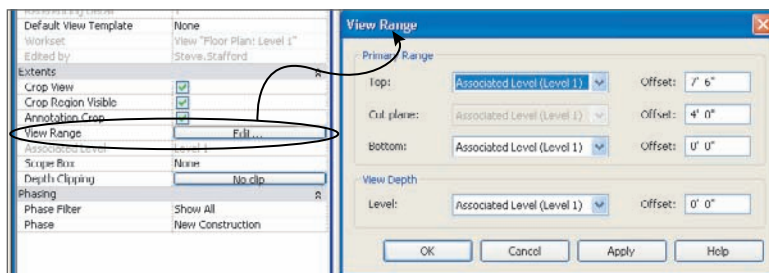

Figure 5.32
**View Range** View Range determines how elements are drawn in the view. It defines where Revit cuts a plan or ceiling plan and whether elements are using a thick, thin, or thinner pen. This little paragraph won't do it justice, so we'll discuss it in greater detail later in this chapter (see Figure 5.32).